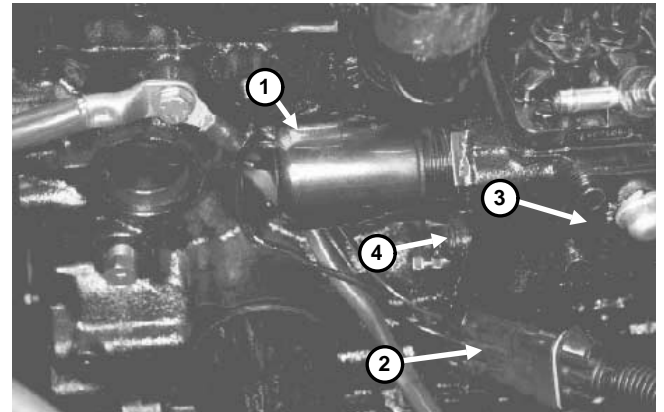

Figure 43
1. Remove the governor tie rod cover (Fig. 43).
6. Remove the cover cap screw from the engine to get access to the solenoid nut (Fig. 43).